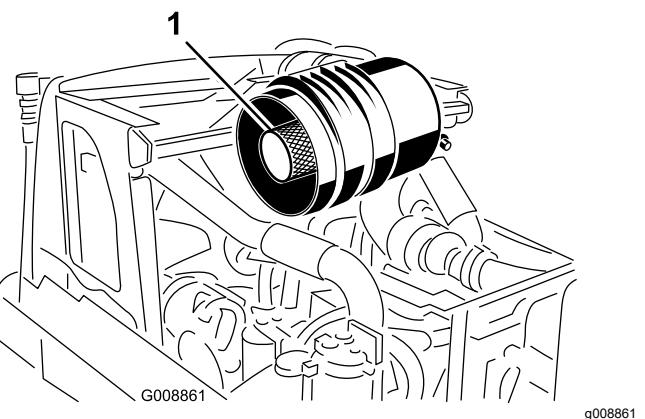

Figure 51
**Important:** Do not attempt to clean the safety filter. Replace the safety filter after every 3 primary-filter services (Figure 51).